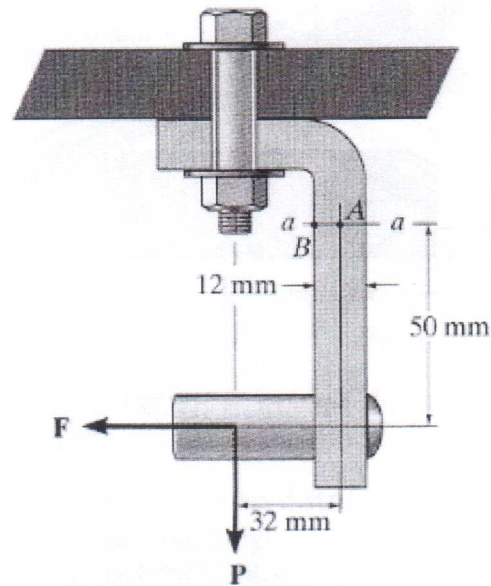

Figure 3.
- (3) The joint, shown in Figure 3, is subjected to forces  $P = 1$  kN and  $F = 0.75$  kN. Determine the state of stress at points  $A$  and  $B$ . The member has a rectangular cross-sectional area of width 18 mm and thickness 12 mm.